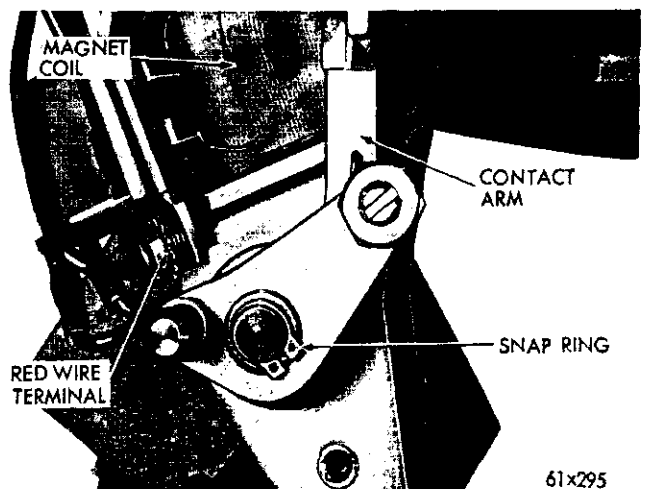

Fig. 46—Snap Ring, Contact Arm, Pintle Shaft
(3) Disconnect the red motor wire at the bottom of the contact point #1 on the magnet assembly (Fig. 46).
(14) Remove the locking arm and spring washer from the pintle shaft.
(15) Remove the snap ring from the end of the pintle shaft and remove the contact arm from the shaft (Fig. 46).
(16) Remove the magnet and throttle over-ride switch assembly from the pintle shaft.